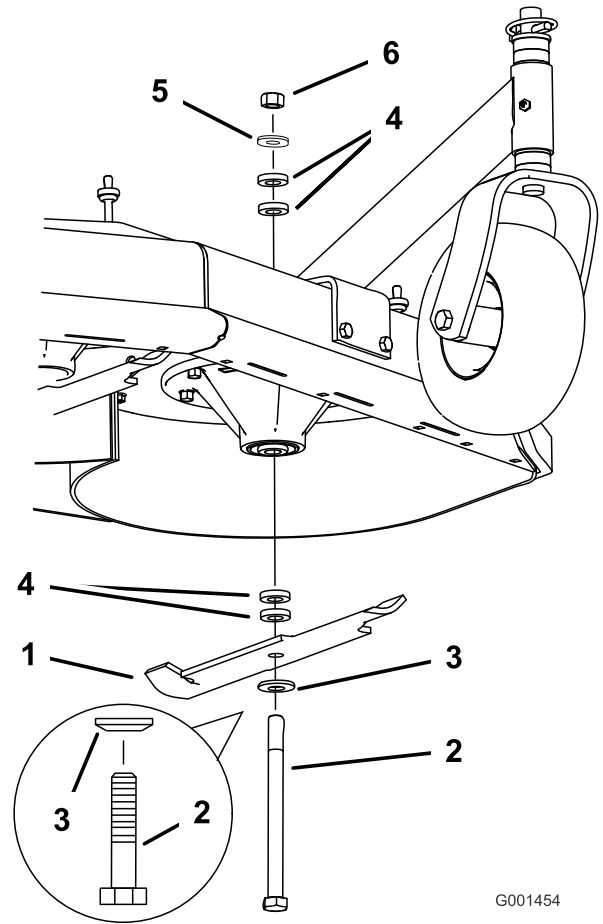
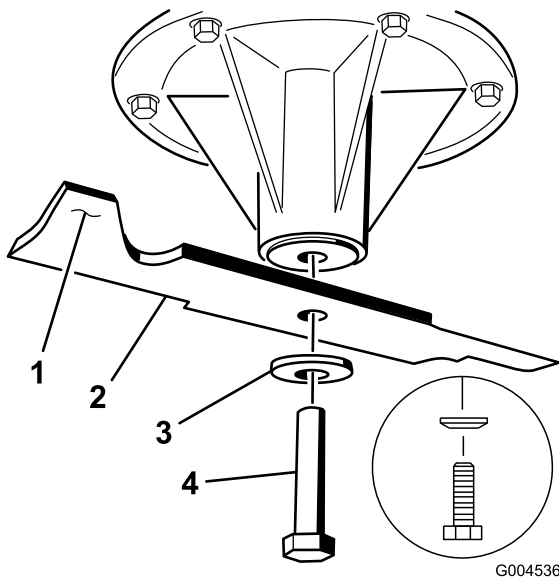

Figure 8
Figure 9
Important: The sail part of the blade (i.e., the turned up section) must face the inside of the mower (**Figure 8**).
2. Install the new blades to the spindles with washers and blade bolts that were previously removed (**Figure 8** or **Figure 9**).
3. For fixed deck mowers only, tighten the blade bolt to 75-80 ft-lb (101-108 N-m) (**Figure 8**).
4. For GrandStand mowers and floating deck mowers, tighten the blade bolt to 85-110 ft-lb (115-150 N-m) (**Figure 9**).